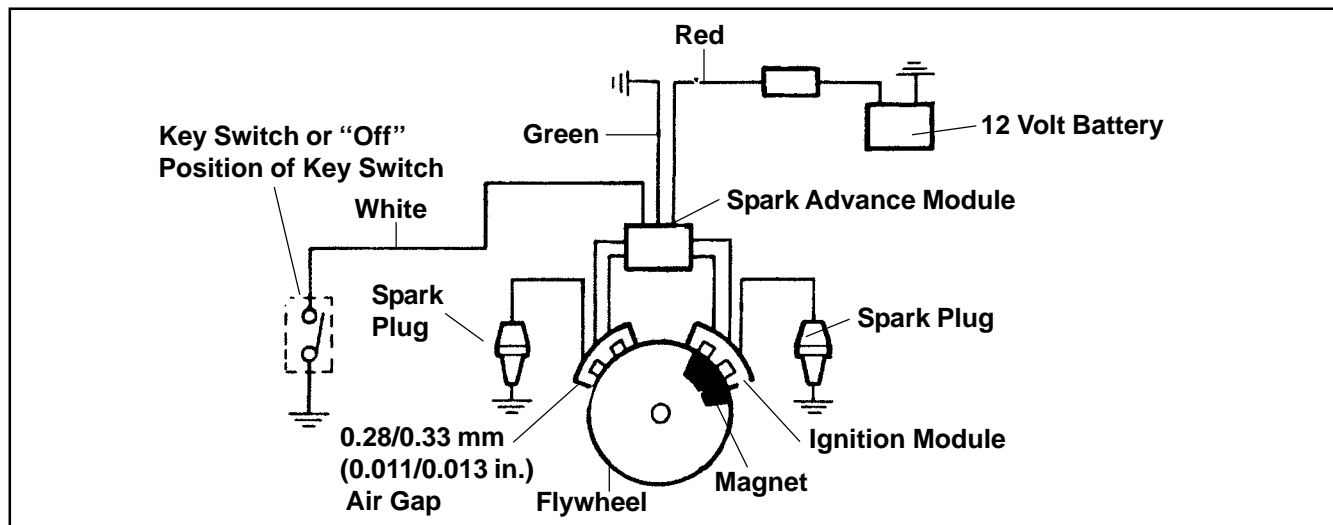

Figure 8-6. Capacitive Discharge Ignition System with Spark Advance.
SMART-SPARK™ equipped engines utilize an electronic capacitive discharge ignition system with electronic spark advance. A typical application (Figure 8-6) consists of the following components:
- Two electronic capacitive discharge ignition modules which mount on the engine crankcase (Figure 8-6).